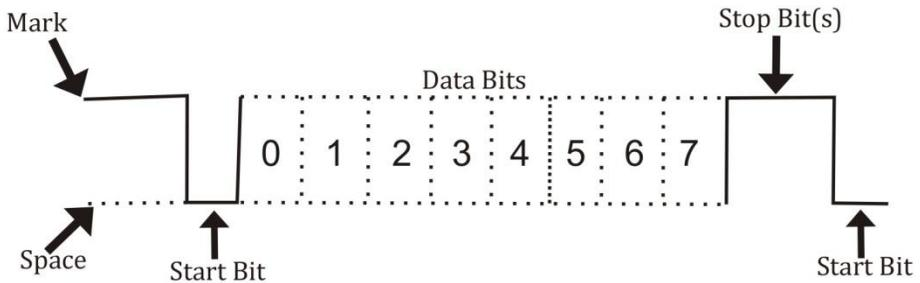

Figure 4.1 Serial communication format[1].
Asynchronous means "no synchronization", and thus does not require sending and receiving idle characters. However, the beginning and end of each byte of data must be identified by start and stop bits. The start bit indicate when the data byte is about to begin and the stop bit signals when it ends. The requirement to send these additional two bits causes asynchronous communications to be slightly slower than synchronous. When transmitting a byte, the UART (serial port) first sends a START BIT which is a positive voltage (0), followed by the data (general 8 bits, but could be 5, 6, 7, or 8 bits) followed by one or two STOP BITs which is a negative(1) voltage. The sequence is repeated for each byte sent. Figure 4.1 shows a diagram of a byte transmission would look like.